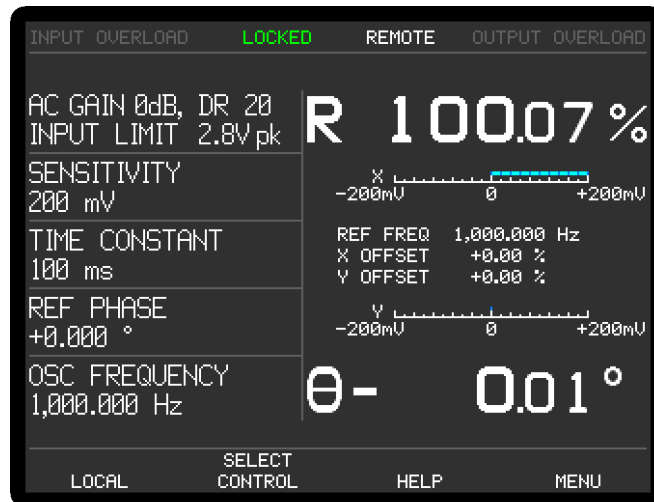

Figure 2-5, Main Display
- 7) Press one of the keys adjacent to the Auto Default menu item. This will set all of the instrument's controls and the display to a defined state. The display will revert to the Main Display, as shown below in figure 2-5, with the right-hand side showing the vector magnitude, R, and the phase angle, θ , of the measured signal in digital form, with two bar-graphs showing the X channel output and Y channel output expressed in millivolts. The left-hand side shows five instrument controls, these being the AC Gain in decibels, full-scale sensitivity, output time constant, reference phase and internal oscillator frequency. The resulting dynamic reserve (DR), in decibels, is also shown.